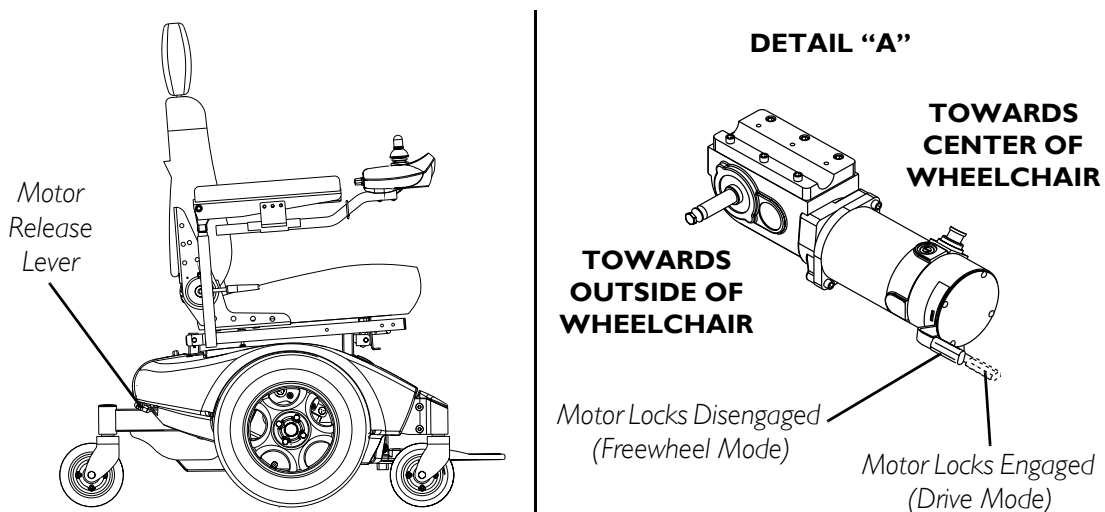

FIGURE 10.2 - ENGAGING/DISENGAGING MOTOR RELEASE LEVER
NOTE: For this procedure, refer to FIGURE 10.2.
- a. Slide the motor lock lever towards the outside of the wheelchair (free wheel position) as shown in Detail "A" of FIGURE 10.2.
- a. Slide the motor lock handles towards the center of the wheelchair (drive position) as shown in Detail "A" of FIGURE 10.2.